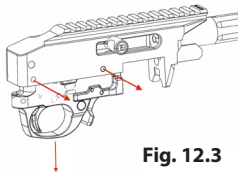

Fig. 12.3
- Remove the trigger guard pins and remove the trigger assembly (Fig. 12.3).